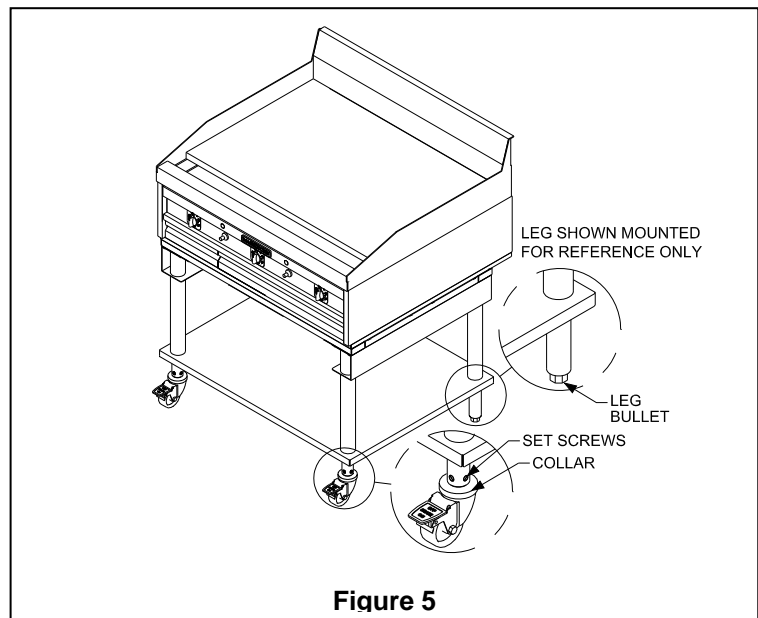

Figure 5
2. **Legs-** using a wrench, or pliers turn the leg bullet, See Figure 5, CCW to raise the height of the equipment stand. There is 1/2" to 3/4" (1.3 – 1.9 cm) of adjustment.
Castors- (For Stands shipped after May 2006) Using a Flat Head screwdriver, loosen the set screws of the caster to be leveled, See Figure 5. Turn the collar of the caster CCW to raise the height of the equipment stand. There is 1/2" to 3/4" (1.3 – 1.9 cm) of adjustment.